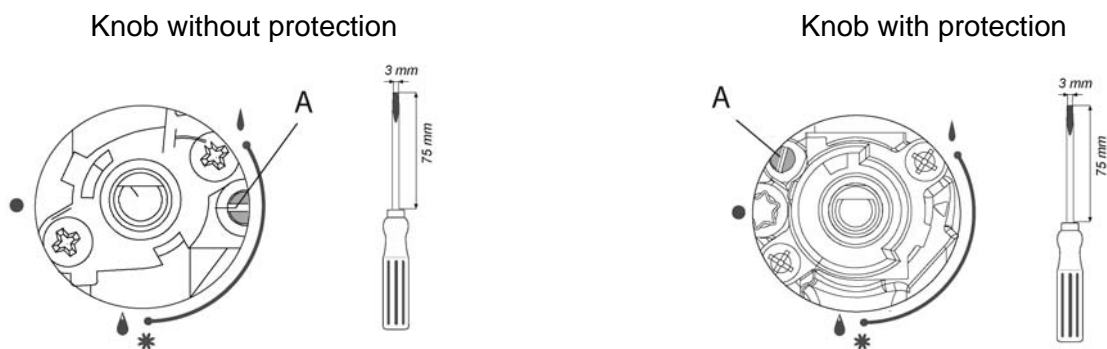

Fig.13
- turn the adjusting screw "A" (Fig. 13) and observe the flame; set such a height of a flame so as it will not be extinguished by a small draught and while quickly turning the knob from full flame position  to the economical flame position  and vice versa